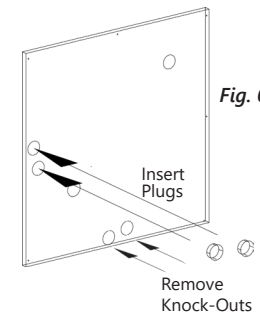

Fig. 09
- 7) Remove round knock-outs on the door to fit drain lines. Plug previously used drain holes with provided plugs. (Fig. 09)